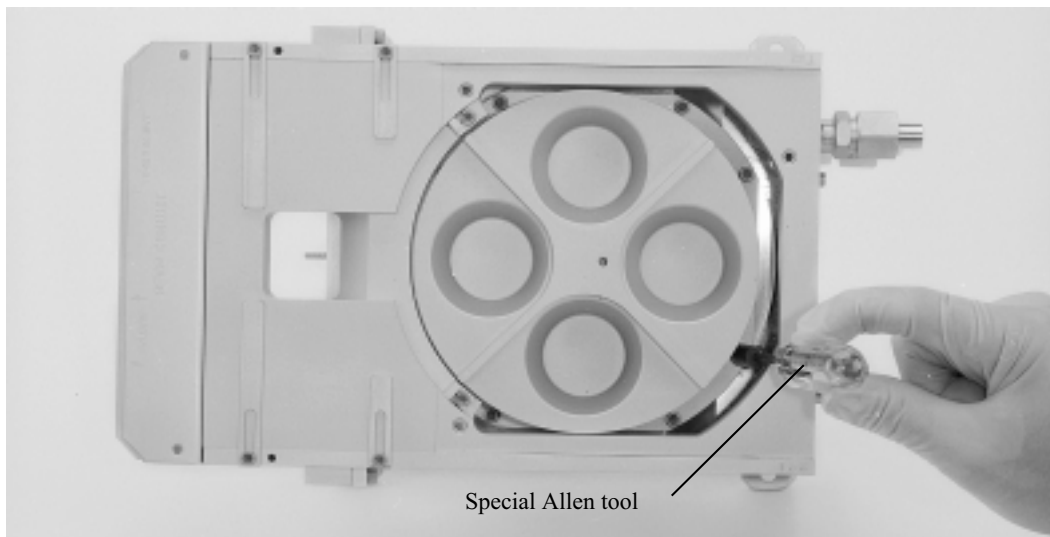

Figure 5-7. Removing the screws that secure the crucible to the mounting flange
Step 6: Remove the 8-32 3/8" screws that secure the crucible to its mounting flange. There are eight of these screws, six of which will be accessible if you turn the crucible to the position shown in Figure 5-7. Perform the following steps in removing these screws: